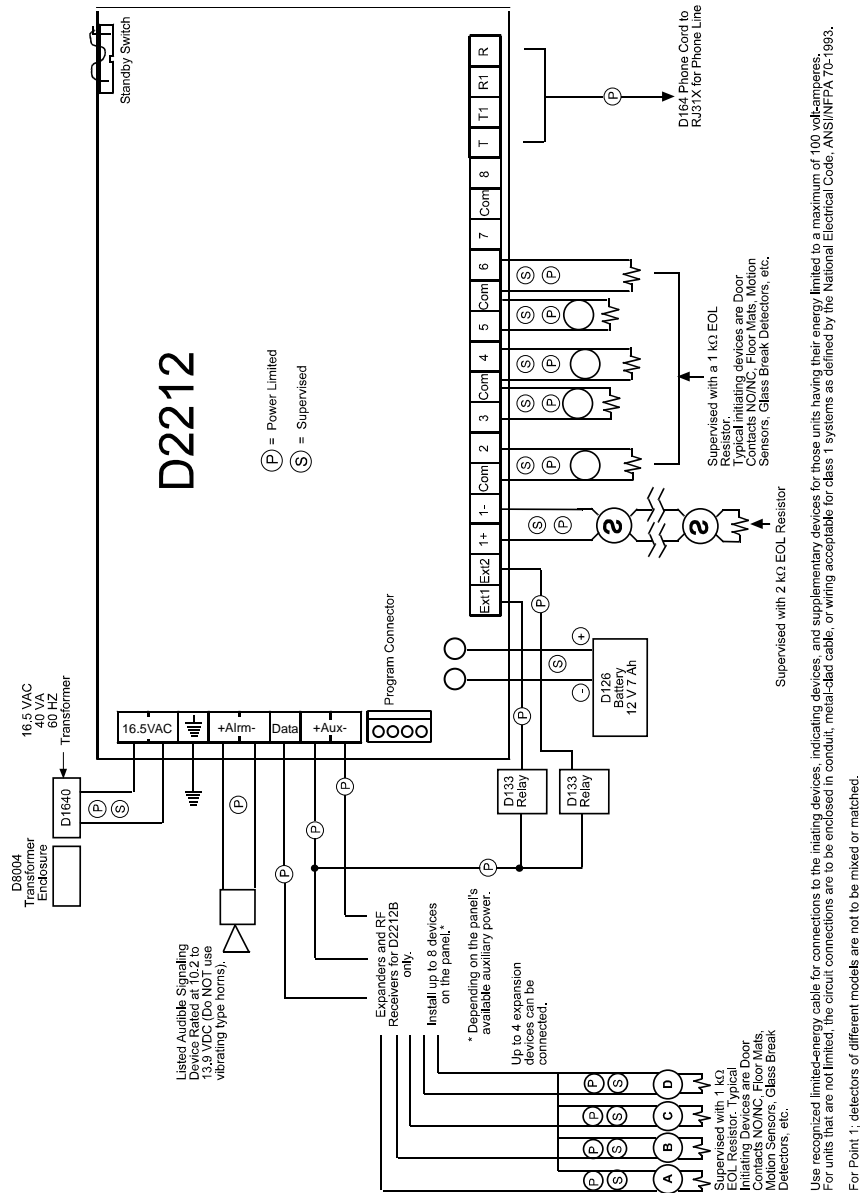

Figure 15: D2212 System Wiring Diagram, Issue A
*Figure 15* on page 29 shows the relationship between the panel and the accessory components referred to in *Table 7*. See the installation and operation instructions for each component for detailed instructions.